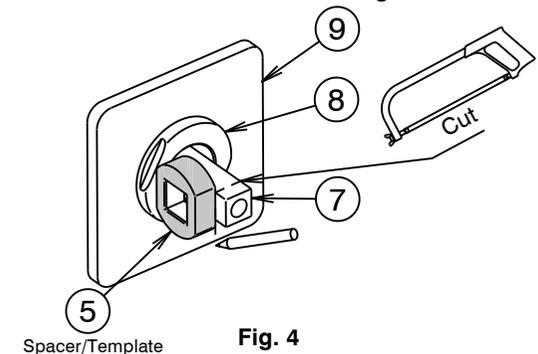

Fig. 4
- * **This mixer accommodates inwall depth from 65 - 75mm. For installations with less than 75mm, the handle insert (7) must be cut by using spacer (5) as a template. (Step 3 & Fig.4.)**
- 1) Fit mixer body (12) onto a suitable mounting plate or noggin in the wall and secure using screws (not supplied) through the holes in its base. When facing the mixer, the connections should be as follows: Hot water inlet connection 'H' to the left. Cold water inlet connection 'C' to the right. Mixed water outlet connection, vertically upwards. Check all connections for leaks and mixer for correct operation.
- 2) Carefully pass the sleeve (8) through the cover plate (9) & 'O' Ring (9b) then screw the sleeve (8) into the thread of nut (10) on mixer body (12). Align the cover plate (9) with the **dorf** marking at the bottom before tightening the sleeve (8) to fully compress the foam seal (9a) against the wall/tile face, taking care not to damage the decorative finish.
- 3) Using the handle spacer (5) as a template, place the flat side of the spacer against the front surface of the sleeve (8) & scribe a line around the plastic insert (7) as shown (Fig.4). Carefully cut the plastic insert (7) along the marked line and remove any burrs, then slide the handle spacer (5) onto the plastic insert (7) until the spacer rests against the sleeve (8).